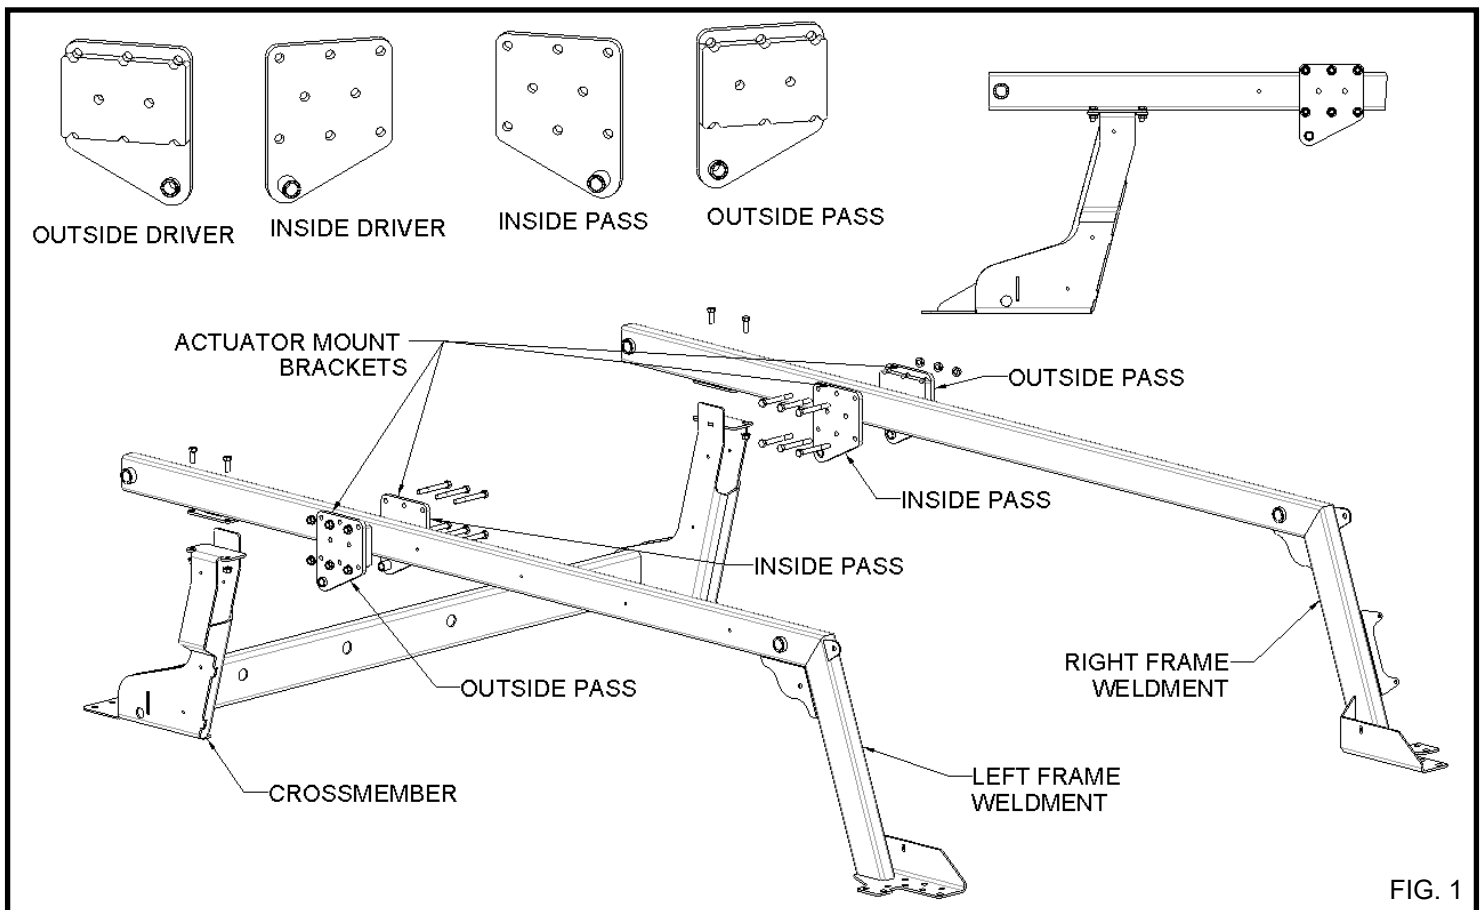

FIG. 1
- 6.2. Inside the vehicle, assemble the left and right frame weldments to the crossmember using (4) 3/8 X 1 UNC bolts and (4) 3/8 serrated flange nuts as shown in **FIG.1**. Finger tighten all attachment bolts. Final tightening will be completed following installation and adjustment of the torsion arm and tie-rods.
- 6.3. Assemble the actuator mount brackets to the right and left frame weldments, using (12) 3/8 X 3 UNC bolts and (12) 3/8 serrated flange nuts. See **FIG. 1** for the placement of the actuator mount brackets.